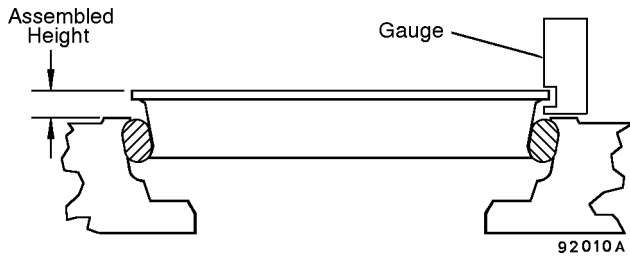
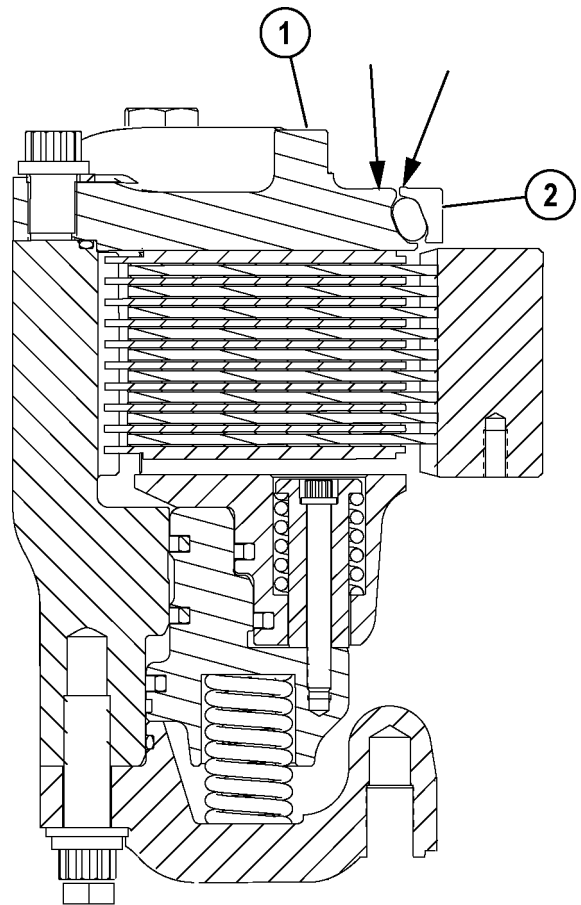

FIGURE 50-119. CHECKING SEAL RING
FIGURE 50-121. CHECKING SEAL HEIGHT
13. Use a gauge (Figure 50-119) to check the seal height variation (marked by arrows, Figure 50-121) between seal ring (2) and back plate (1). Check the assembled height in four places that are 90° apart. The height variation around the assembled ring must be less than 1.0 mm (0.04 in).